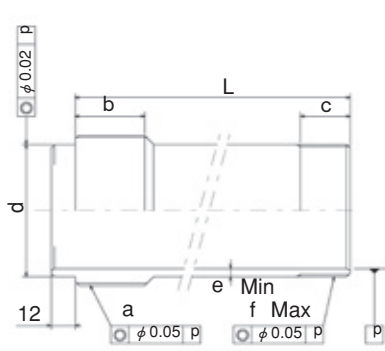

Fig. 12
The dimension L in Fig. 12 is determined from the distance A between the cylinder adapter and the back plate.
- Keep the dimension e and the dimension f in Fig. 12 for the draw pipe and a material with the tensile strength 380MPa (38kgf/mm2) or more must be used.